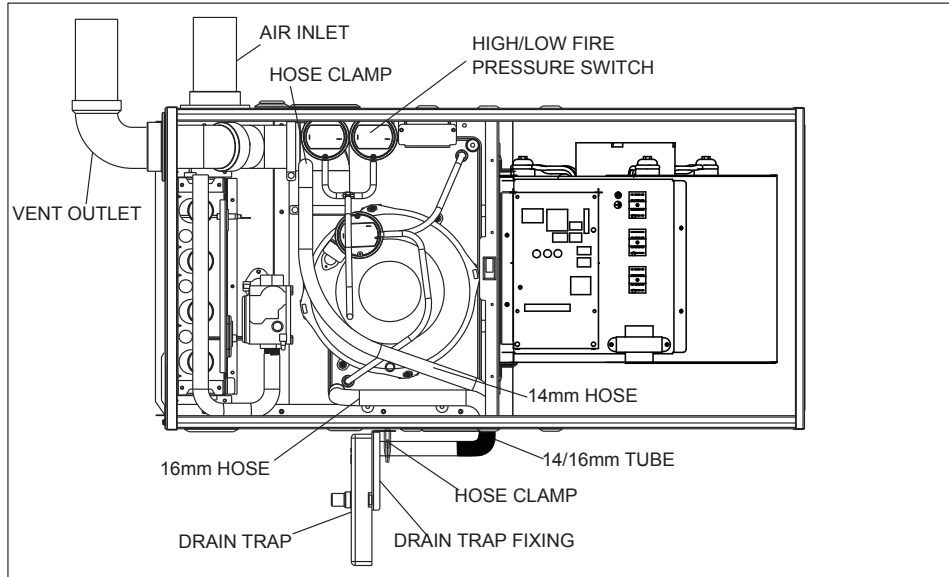
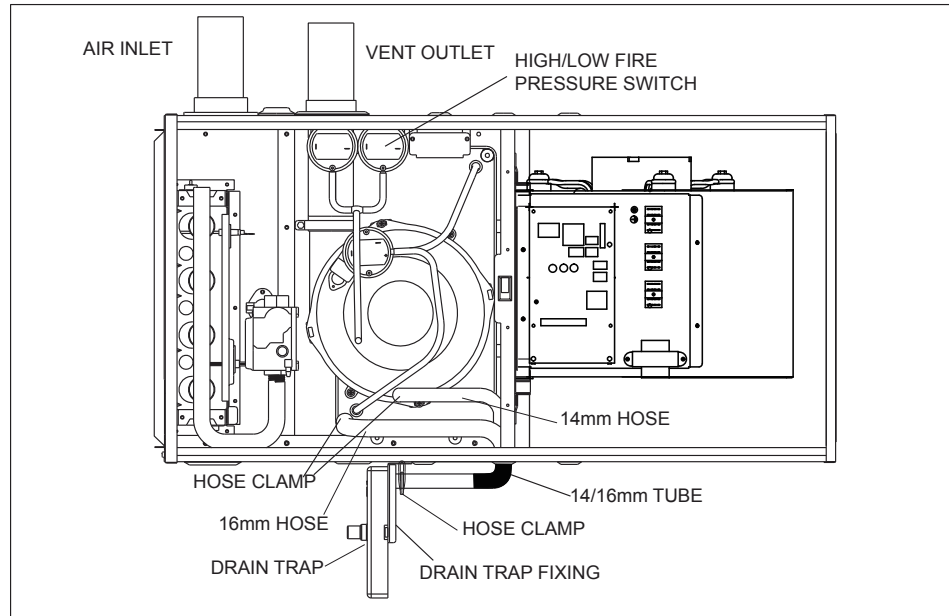
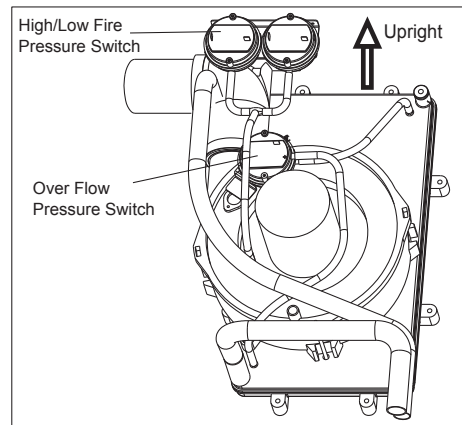

Fig. 14 - Horizontal Left Side Installation, Vent Through Top Panel
Fig. 15 - Horizontal Left Side Installation, Vent Through Side Panel
Fig. 16 - Pressure Switch Position
CAUTION: FOR HORIZONTAL LEFT INSTALLATION (AIR DISCHARGE TO THE LEFT), HOSES OF CONDENSATE OVERFLOW PRESSURE SWITCH NEED TO BE REROUTED. (SEE FIGURE 14&15)
2. Air discharge to the left and vent through furnace top panel (see Fig.14 and Fig. 16)
3. Air discharge to the left and vent through furnace side panel (see Fig. 15 and Fig. 16)
In this installation, hoses connecting between ports of overflow protection pressure switch (overflow switch) and pressure tabs on the collector box **MUST be switched**. The overflow switch has two ports, which is different from the other two regular pressure switches that have only one port. Make sure that black port (positive) is connected to the lower position tap on condensate collector box and gray port (negative) to higher tap of condensate box. Connecting incorrectly will result in failure to protect condensate overflow. (See Fig. 16)